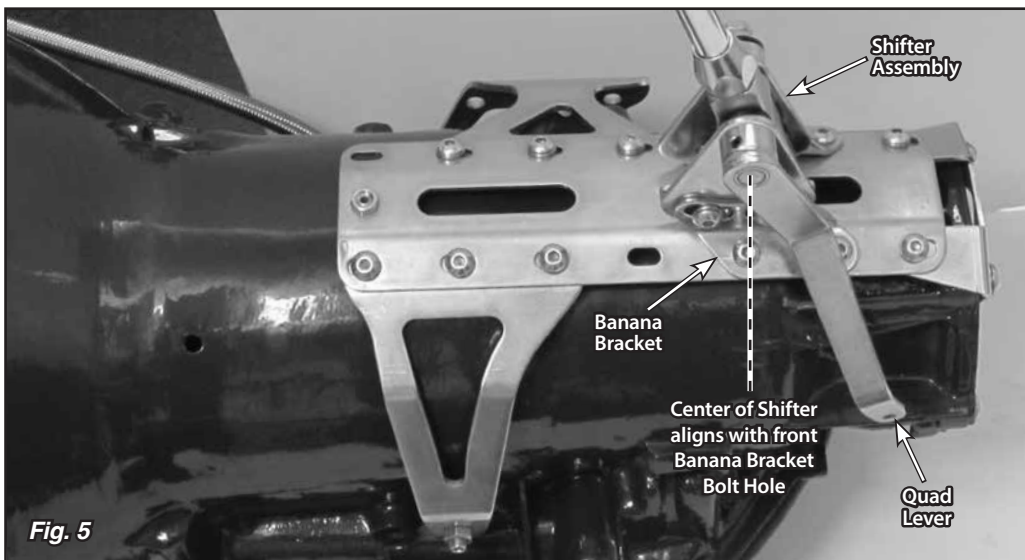

Fig. 5
Step 8: (Continued) Transfer that measurement to the transmission (or to the engine/transmission assembly if the engine is not installed in the vehicle). Mark that location on the Shifter's main plate. The holes in the main plate that are closest to your mark are where the **FRONT** banana bracket bolts will need to be installed. **Fig. 5**
Any shifter mounting holes that do not line up with the side or rear mounting bracket bolts must use the provided 5/16"-24 x 1/2" button head bolts and nylock nuts (**NO lock washers**). Make sure the shifter assembly is mounted using all four bolt holes. **Do not use any other length bolts. Fig. 5**